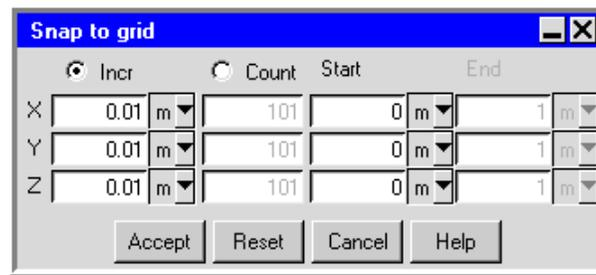

Figure 7.2.8: The Snap to grid Panel
- Snap the room (and other objects) to a grid using the Snap to grid panel (Figure 7.2.8). To open this panel, select the room in the graphics window and then select Snap to grid in the Model menu.